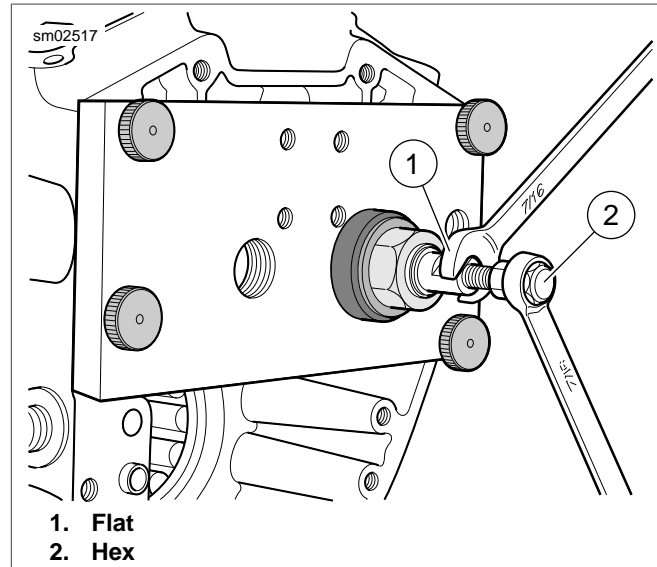

Figure 3-114. Expanding Collet by Turning Hex Clockwise
10. See Figure 3-114. Using a 7/16 in. open end wrench, hold flat on collet to prevent rotation. Using a second 7/16 in. open end wrench, expand collet by turning hex at end of shaft in a clockwise direction. Expandable end of collet makes contact with needle bearing ID.